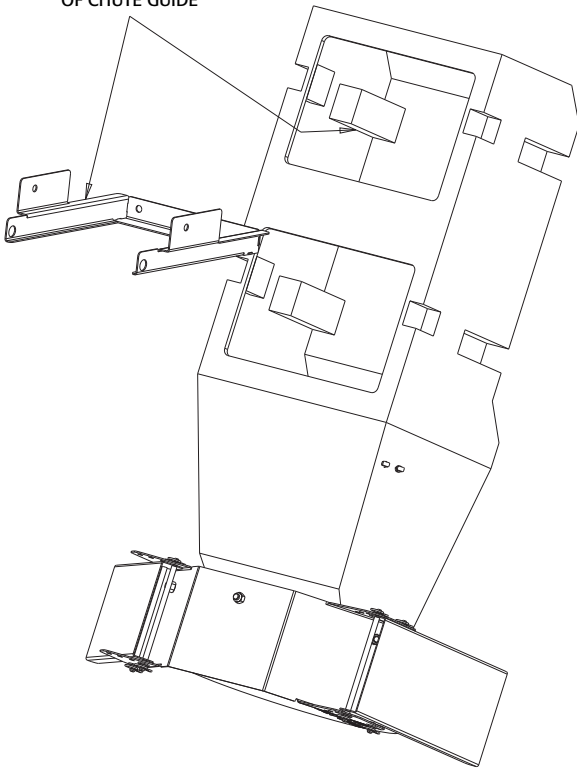

Fig. 3
- G.** Using holes in chute guide as guides, drill 4 clearance holes for 3/8 dia. bolts. Bolt chute guide to chute as shown in Fig. 3